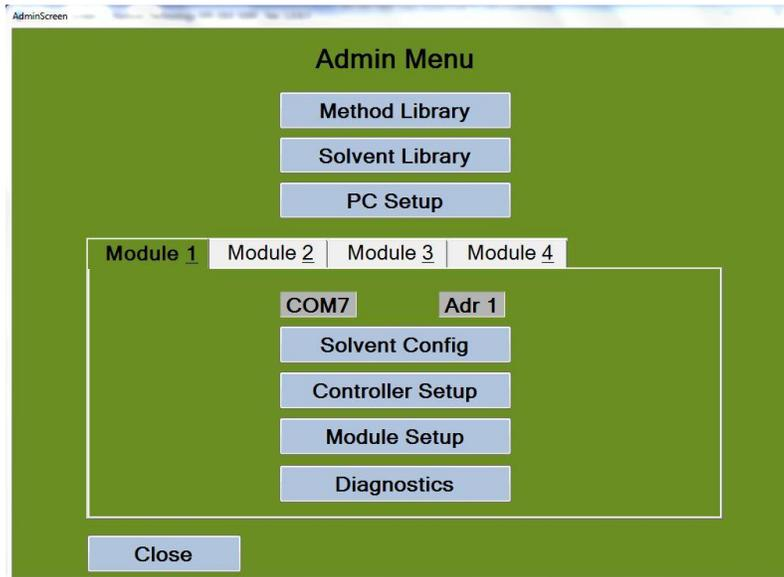

Figure 6-30. Admin Menu Screen
Step 1: From the main *Overview* screen, click the *Admin Menu* button. The screen in Figure 6-30 will appear.